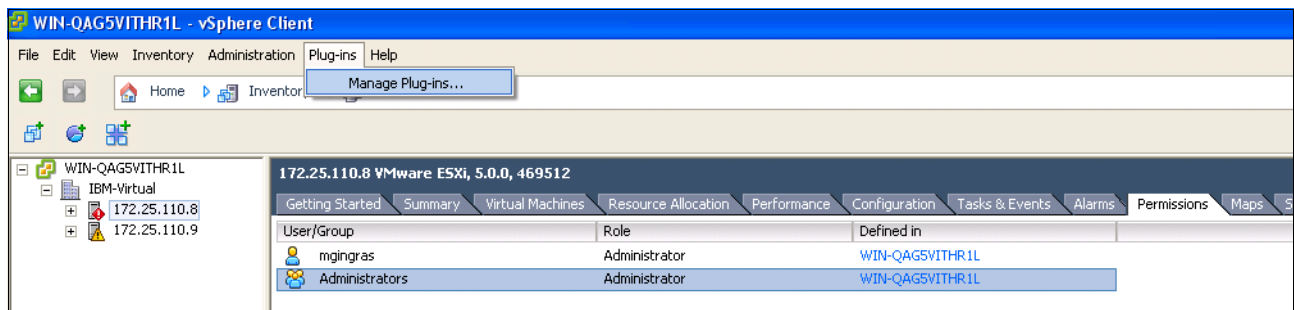

Figure 7-48 Selecting the Manage Plug-ins option
1. Select **Plug-ins** → **Manage Plug-ins** (Figure 7-48).